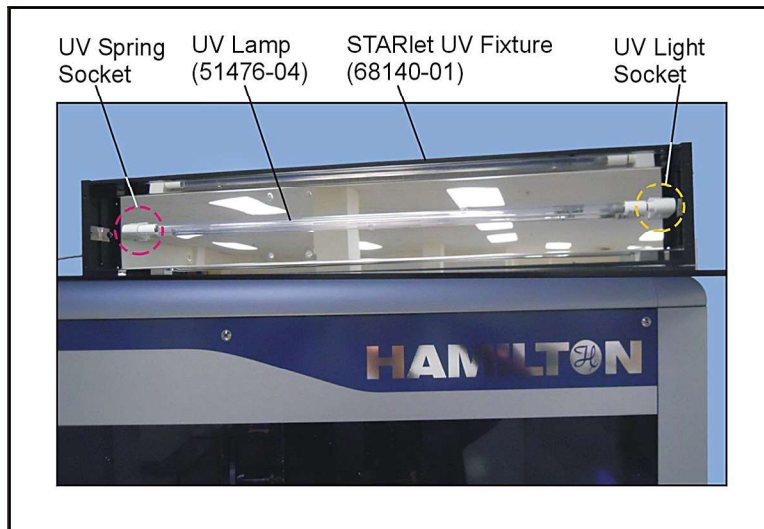

Figure 2-38: STARline UV fixture tipped onto its side
3. Push the lamp to your left, into the spring socket on the left (Figure 2-38), to release the single pin from the right socket.